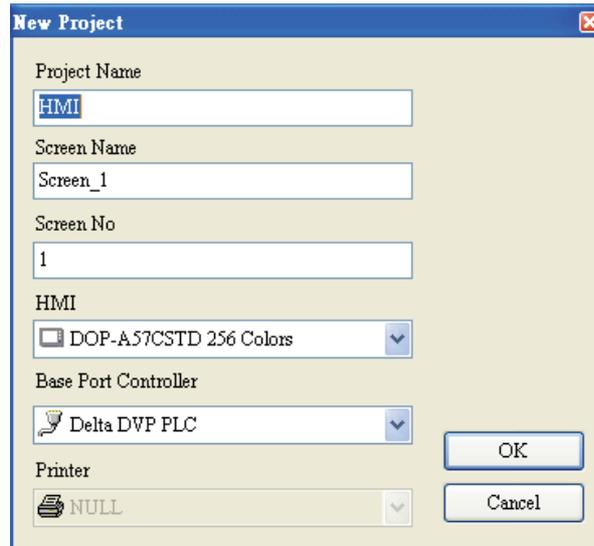
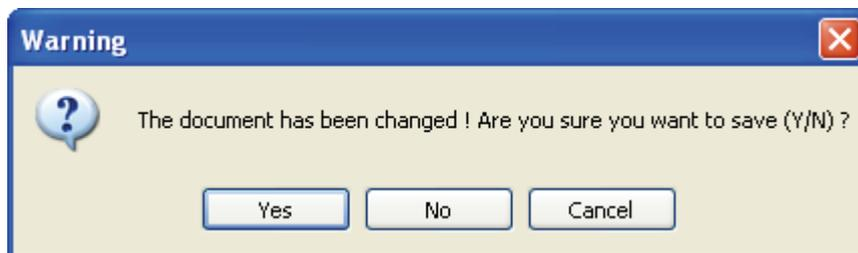
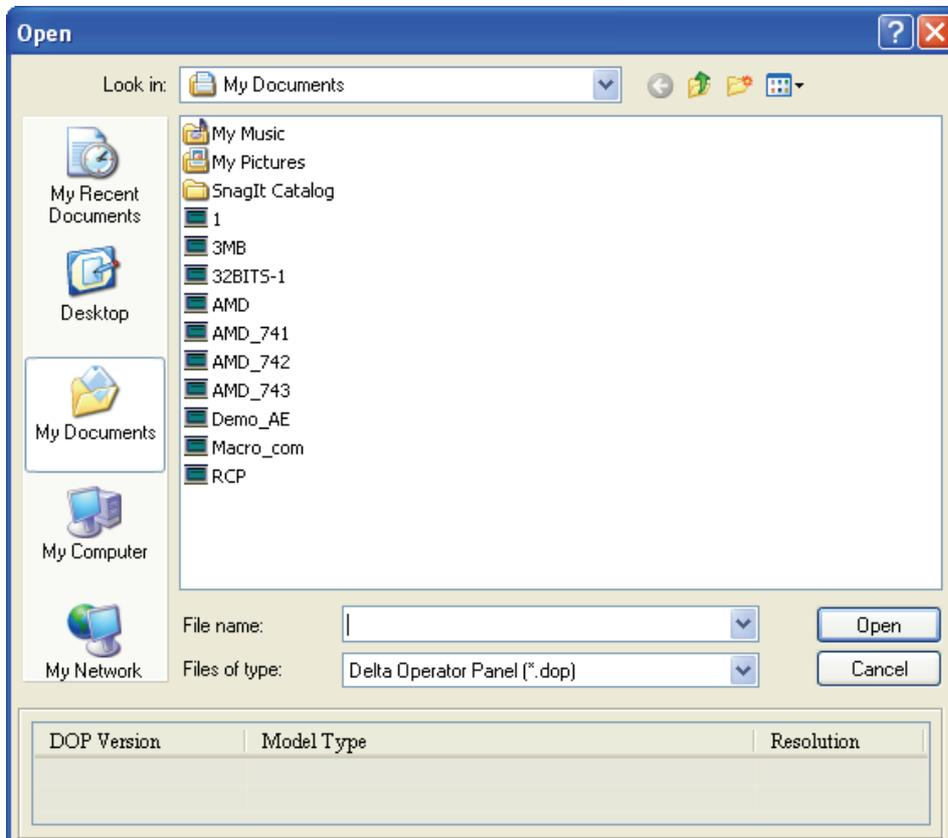

Fig. 2.3.2 New project dialog box
Fig. 2.3.3 Saving dialog box
Fig. 2.3.5 Open an old project in ScrEdit
Creates a new project by choosing **File > New** (Fig. 2.3.2) or clicking the New icon  from toolbar (Fig. 2.3.3), or using keyboard shortcuts by pressing **Ctrl + N**.
1. If this is the first time use and there is no old project, the following dialog box (Fig. 2.3.2) will show up for the user to input project name, screen name, screen number, HMI type and connecting base port controller after creating a new project.
2. If other project files already exist and are open, the user will get the following dialog box to remind the user of saving project (Fig. 2.3.3) before creating new project. Press **Yes** button to save the existed file, press **No** button not to save the file and press **Cancel** button to cancel the save operation. After the user press the **Yes** or **No** button, the new project dialog box will appear again (Fig. 2.3.2).
1. If other project files exist before opening an old project, the user will get the Saving dialog box (Fig. 2.3.3) to remind the user of saving file and then get the following dialog box for opening existing dop file (Fig. 2.3.5).
2. If save operation is complete or there is no old project files, the following dialog box for opening existing dop file (Fig. 2.3.5) will show up directly.